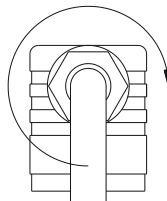

Fig. 9
- ⚡ Press the core ⑧ into the cable socket ② until it locks into place.
- ⚡ Put the central screw ⑥ in the cable socket ② and tighten the screwed cable gland ⑤ M16x1,5 (⇒ Fig. 9).